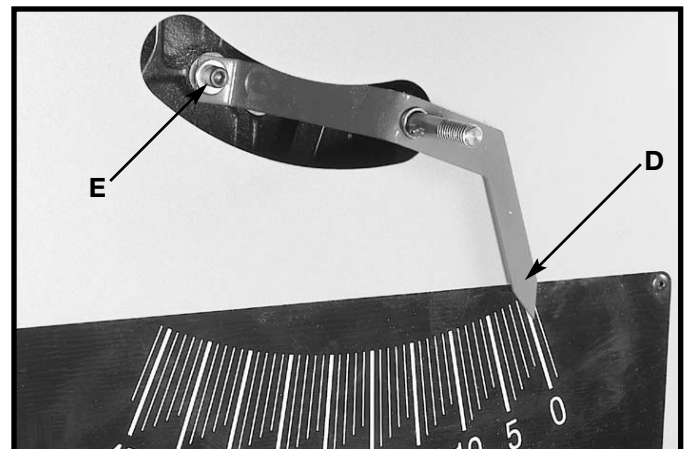

Fig. 61
5. Adjust the pointer (D) Fig. 61 to point to the zero degree mark on the scale by loosening screw (E), adjusting pointer (D), **and tightening screw (E)**.